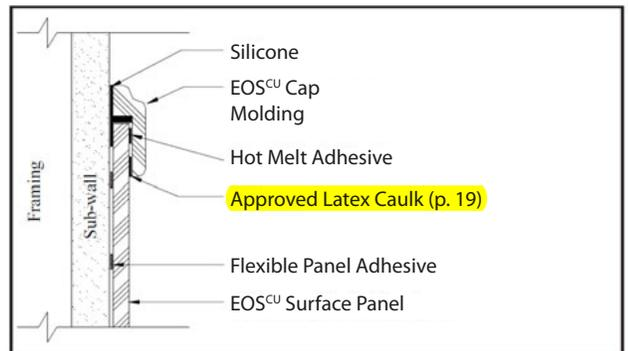

Figure 31D
- Provide min. 1/8" **approved latex caulk gap** at all inside corners and between top of panel and molding. **(Figure 31D)**
- Apply a continuous bead of **approved latex caulk** to top and bottom of moldings. **(Figure 31D)**
- Apply small dabs of hot melt to hold moldings in place until securely adhered. **(Figure 31D)**